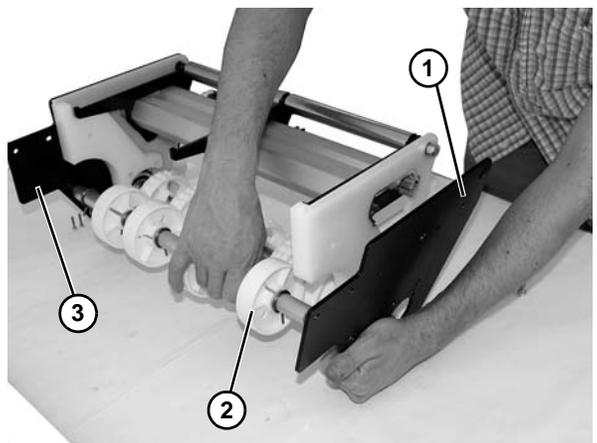

Figure 52
11. Remove end plate (Figure 52, item 1), and remove lower roller assembly (Figure 52, item 2) from end plate and opposite end plate (Figure 52, item 3).